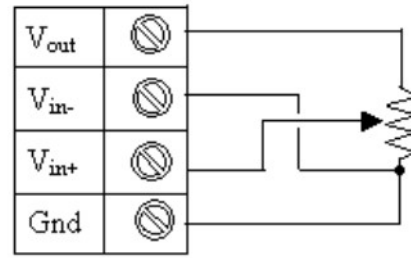

Fig 3.19 - Potentiometer Measurement
rotation pot). One can scale this 0 to 1 data to other units using the Channel Mapping dialog. We recommend 5K to 25K ohm pots since lower values may overload the Vout driver and higher values may incur excess noise. Figure 3.19 shows the Vin- terminal being wired to the sensor, yet a jumper wire between Vin- and Gnd will work as well.
7. Wire your potentiometer per figure 3.19, and refer to the steps at the beginning of this chapter for more information on how to set up your sensor.^{5,10}